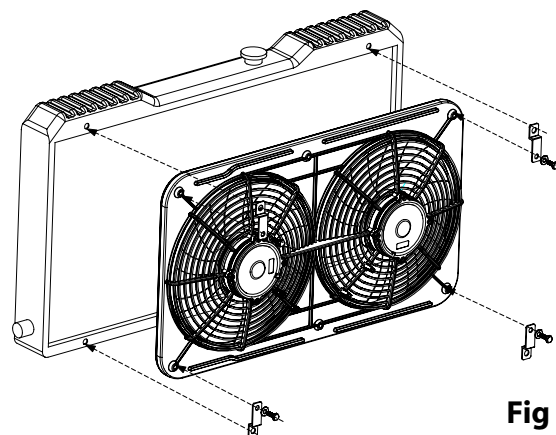
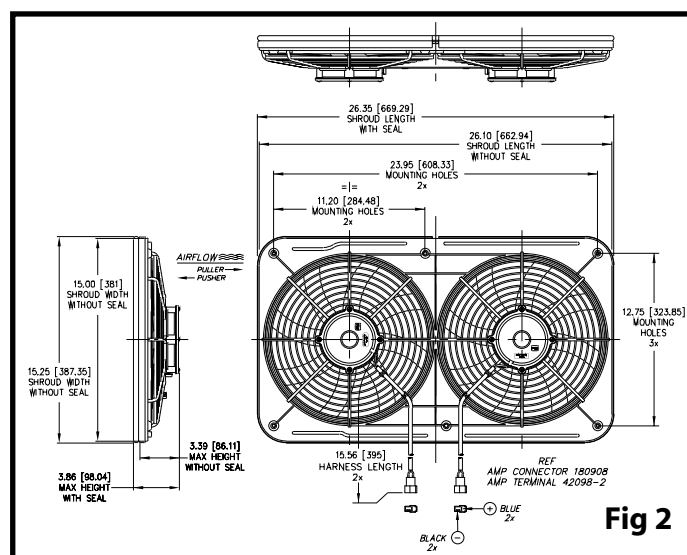

Fig 1
Fig 2
2. We do not recommend the use of nylon tie kits or any other "through core" mounting methods for this fan assembly. The 225 watt motors used in this dual fan assembly are too heavy and produce too much starting torque to be supported by the radiator fins. We recommend purchasing a prefabricated mounting kit **MARADYNE® MFA107** or fashioning metal brackets that will attach to at least four of the six ¼ - 20 nylon reinforced nuts pressed in the back of the shroud and then bolted to the U-channels of the radiator/heat exchanger (See Fig 1.). 1" X ¼-20 bolts are recommended to attach the brackets to the shroud. Bolts must **NOT** be long enough to contact the radiator/heat exchanger. See Fig 2 for bolt pattern.